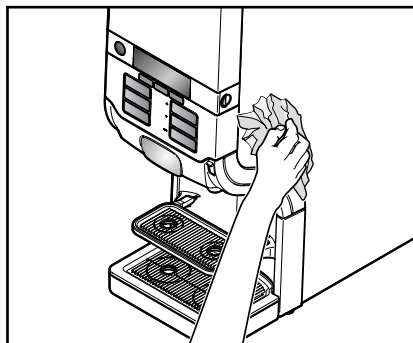

Fig. 28
6. Wipe down the exterior of the dispenser with a damp and clean cloth (fig. 28).